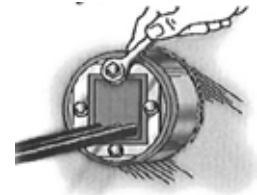

Figure 4
7. Nuts are alternately tightened until the Multi-Plug is secure in the sleeve (Figure 4)